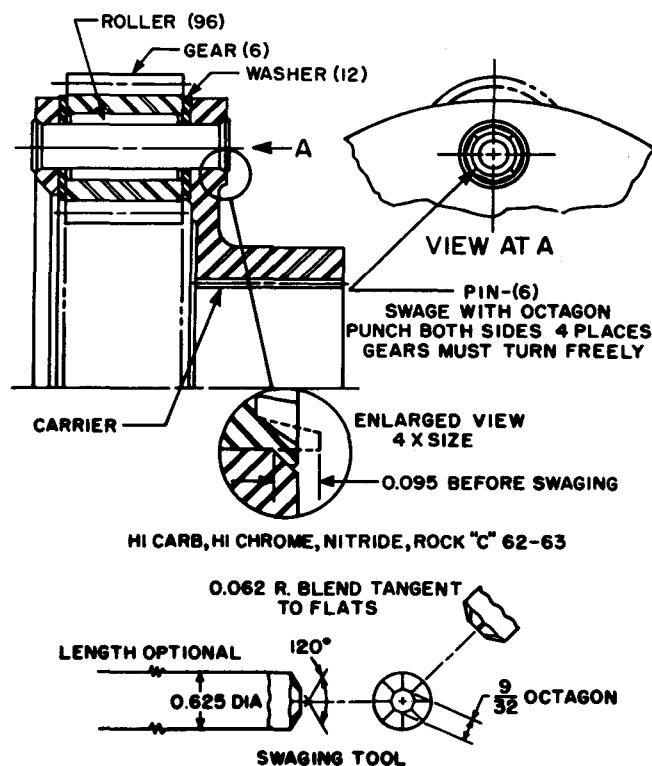

Fig. VI-23. Low-range planetary carrier assembly—cross section
(11) Install seals 10 and 12 (and expanders 16 and 17 on later models) onto the piston 11. Refer to para 16c(12) through (14), above, for seal and expander installation.
a. Disassembly (B, foldout 11, and fig. VI-23)
(1) Position carrier assembly 8 (B, foldout 11), flat side down, on a drill press table.
(2) Using a 1/2-inch twist drill, centered accurately, drill the end of each pinion pin 12 to weaken the staking.
(8) Repeat procedures (3) through (7), above, for the remaining pinion groups. Aline the pinion groups in the carrier by inserting the alining tool into each spindle bore.
(9) Press new spindles through the carrier and pinions until they project 0.095 inch from the inner ends of the countersinks at the rear (webbed side) of the carrier (see inset detail of fig. VI-23).
(10) Stake both ends of the spindles into the countersinks of the carrier. Refer to fig. VI-23 for details of fabricating the staking punch.
(11) Install seal 15 (and expander 18 on later models) onto piston 16. Refer to para 16c(12) through (14), above, for piston seal and expander installation.